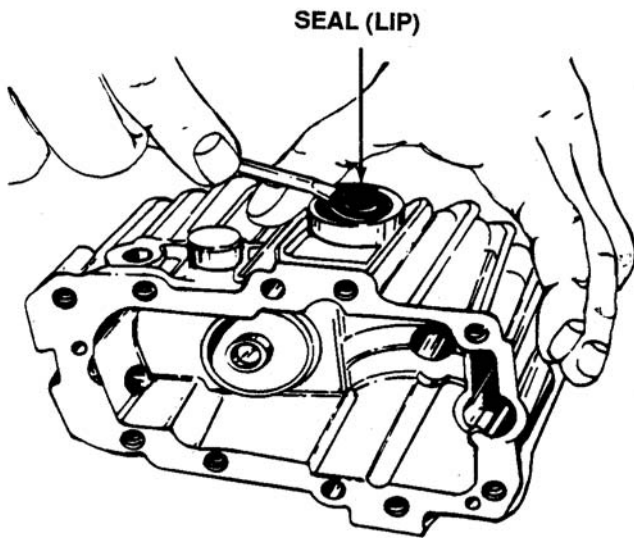

Figure 6-29. Oil Seal Removal
f. Pry oil seal out with screwdriver. Take care not to damage the housing. See Figure 6-29.